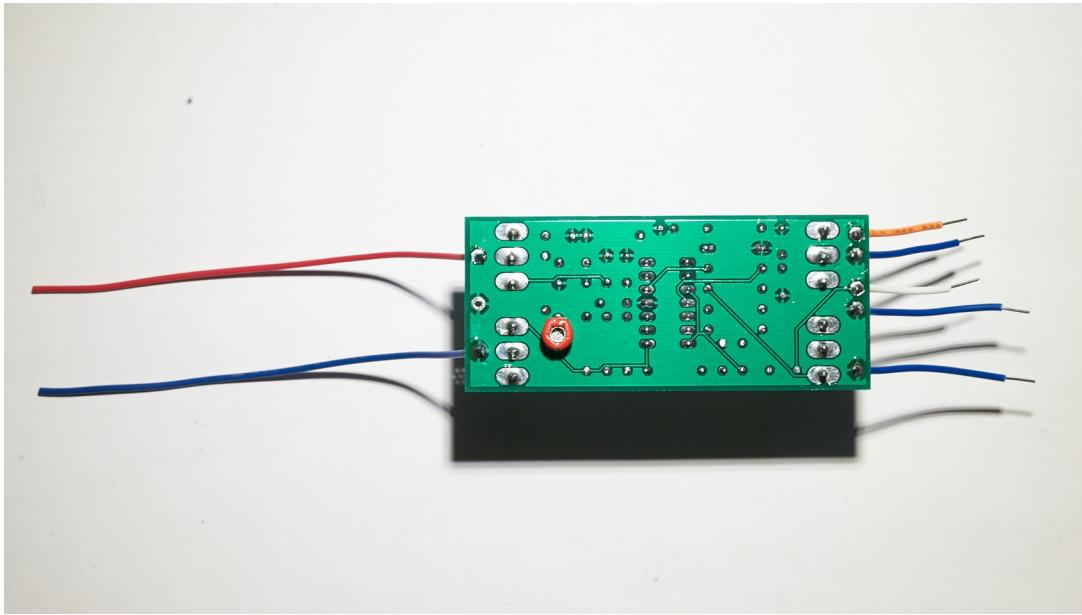

Figure 22
8. Perform a close final inspection to detect missed or cold solder joints. It is recommended, but not essential, to remove solder flux residue with a flux remover, contact cleaner or 99% isopropyl alcohol and gentle brushing with a medium stiffness brush such as an old toothbrush. You may decide to do this later, with all the switches and wires installed as shown later in figure 22.